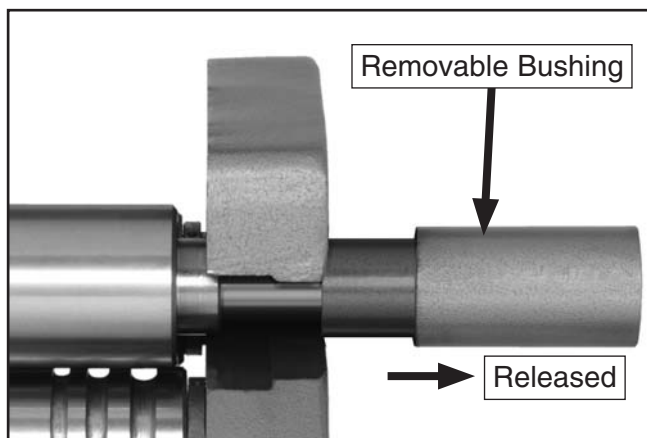

Figure 30. Removable bushing release.
2. Slide the removable bushing outward. This will release the top roller from the stand (**Figure 30**). Do not yet attempt to remove the top roller.